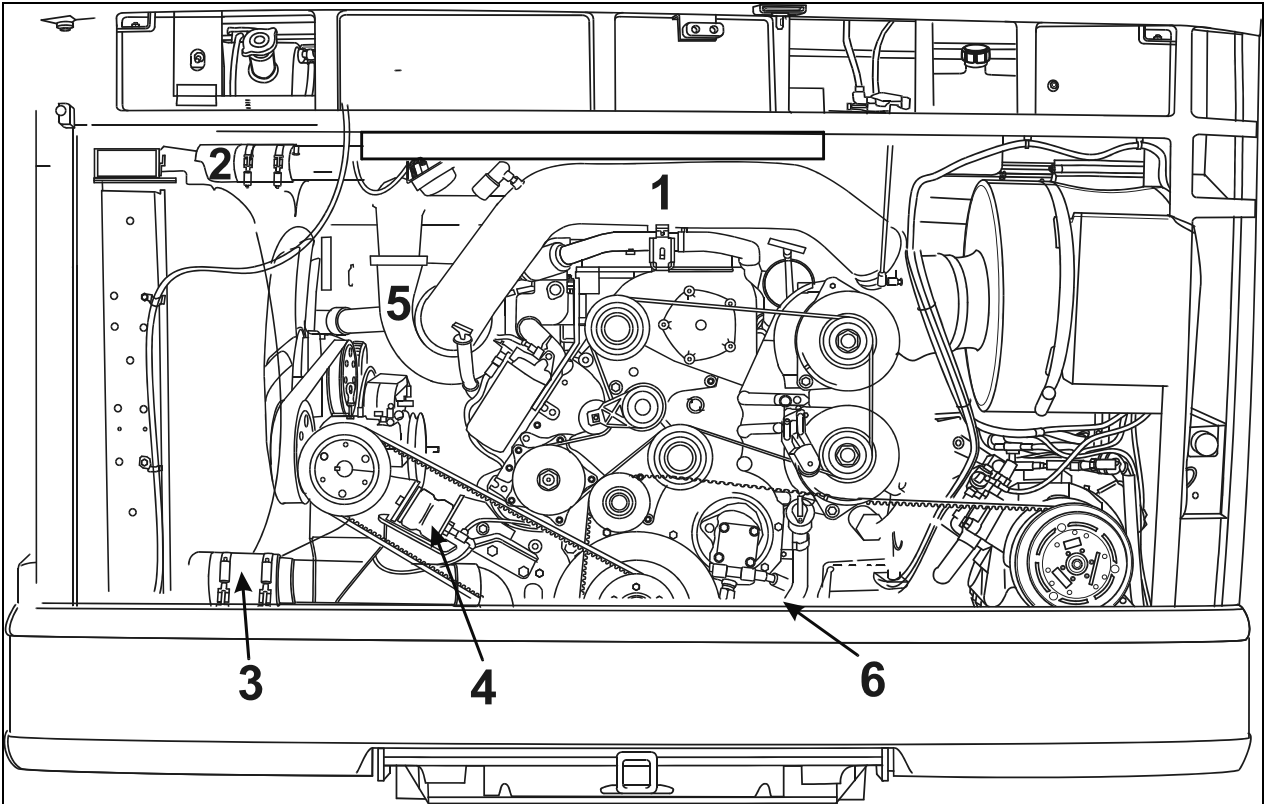

FIGURE 17: ENGINE COMPARTMENT XL2 COACHES (TYPICAL)
6. Disconnect and remove the engine-air intake duct mounted between air cleaner housing and turbocharger inlet (1, Fig.17, 18).
7. Disconnect and remove the air intake duct mounted between the air cooler outlet and the engine intake (2, Fig.17, 18).
8. Disconnect and remove section of coolant pipe assembly mounted between the radiator outlet and the water pump inlet (3, Fig.17, 18).
10. Disconnect the electric fan-clutch connector, close to the water pump (Fig. 17, 18).
11. Dismantle the air bellows from the upper bracket of the fan-drive assembly tensioner. Remove the upper bracket (4, Fig. 17, 18).
13. Disconnect and remove the air intake duct mounted between the turbocharger outlet and the air cooler inlet (5, Fig. 17, 18).
20. Disconnect the power steering pump supply and discharge hoses. Cap hose openings immediately to limit fluid loss. Remove retaining clips from cradle (6, Fig. 17, 18).
21. Disconnect the oil delivery hose from the valve located at the reserve tank drain (7, Fig. 17, 18).